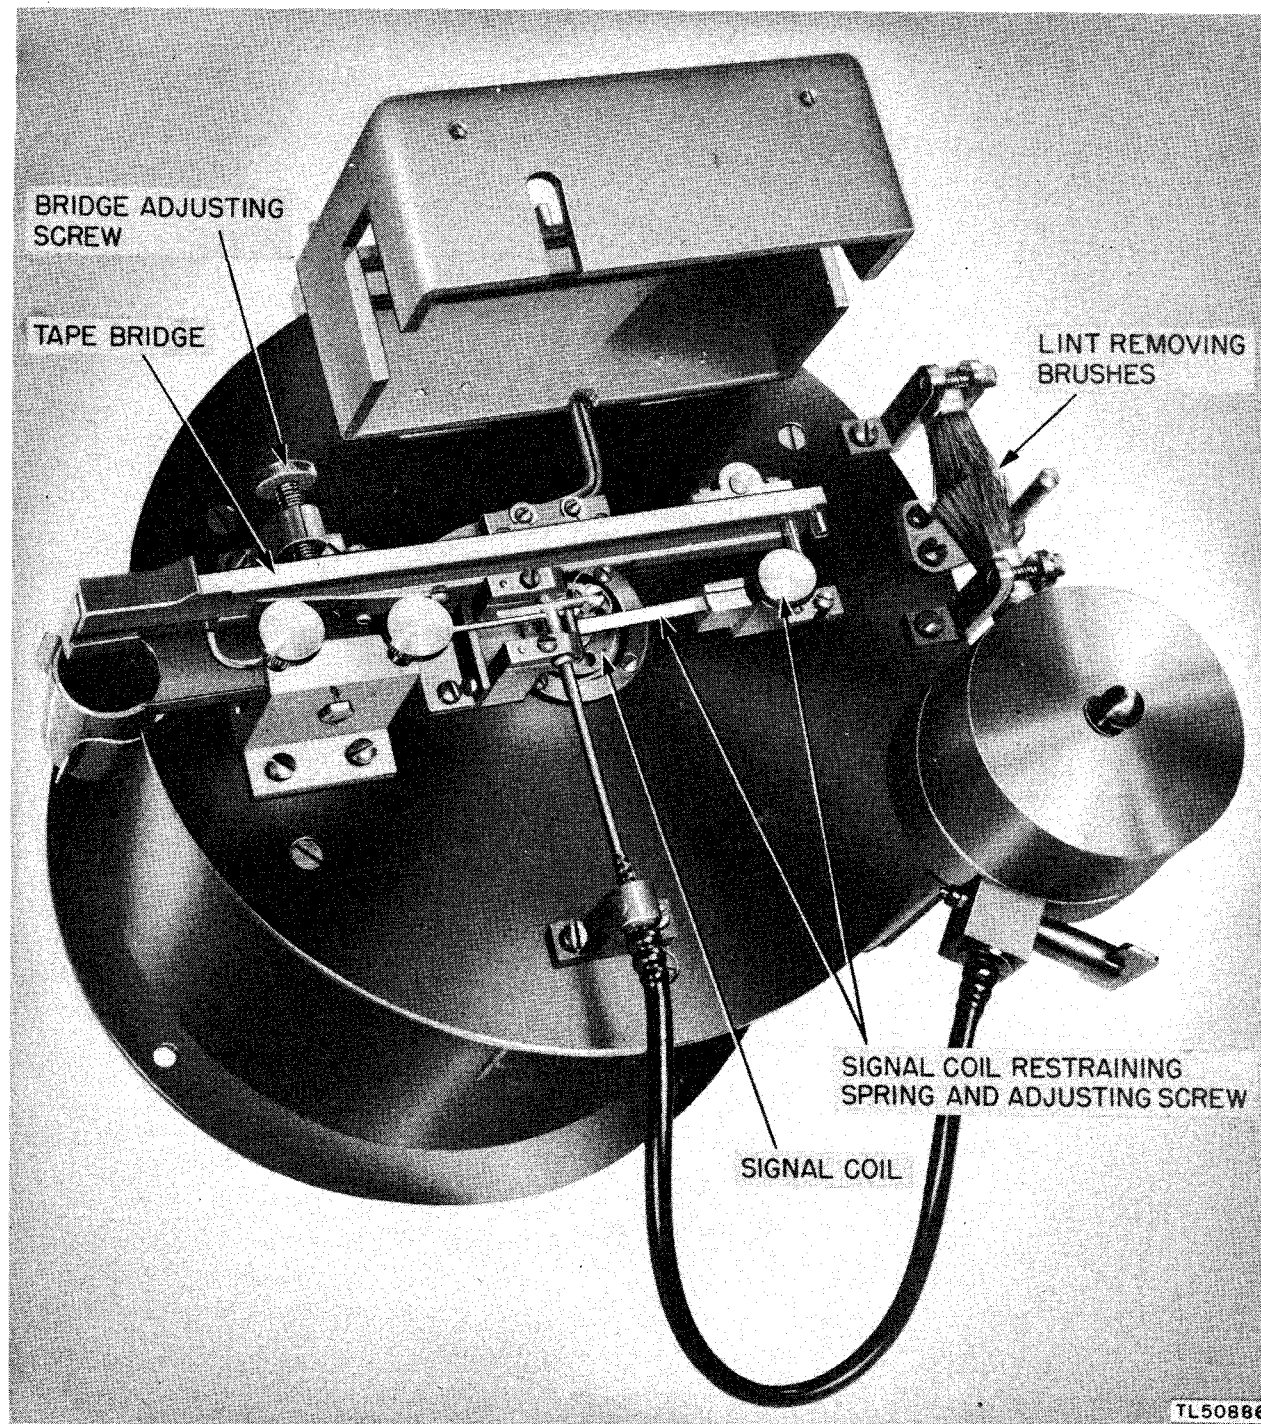

Figure 61. Ink recorder, type 4-G, top view.
**g.** A pair of bristle brushes to remove lint from the paper tape (fig. 61).
a. Slip the tape between the bristle brushes (fig. 61) and the two guide pins.
c. Lift the hinged tape guide (fig. 61) and draw the tape into the slot under it.
a. **Field Coil (figs. 73 and 79).** The field coil consists of two coils of copper wire (265)1 in the center of which is a steel core (262) fastened mechanically and magnetically to the bottom plate (266). The top of the steel core is level with the lower surface of the coil pot cover plate (209), which has a circular opening just above the core. The signal coil (280, fig. 61) moves up and down through this circular opening. The top of the steel core forms one magnetic pole. The base, sides, and top of the recorder case complete the magnetic circuit and bring the opposite magnetic pole within 3/32 inch of the core at the edge of the circular opening. Across this space is a very strong magnetic field, and a very small current through the signal coil causes a relatively large movement of the coil.